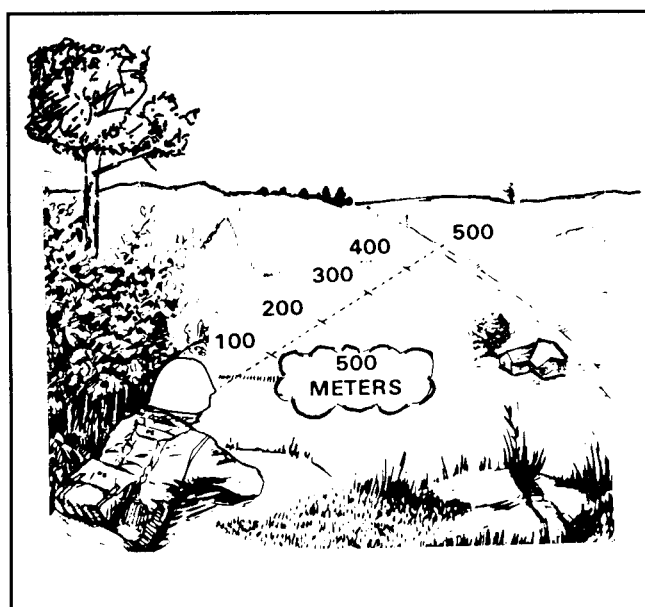
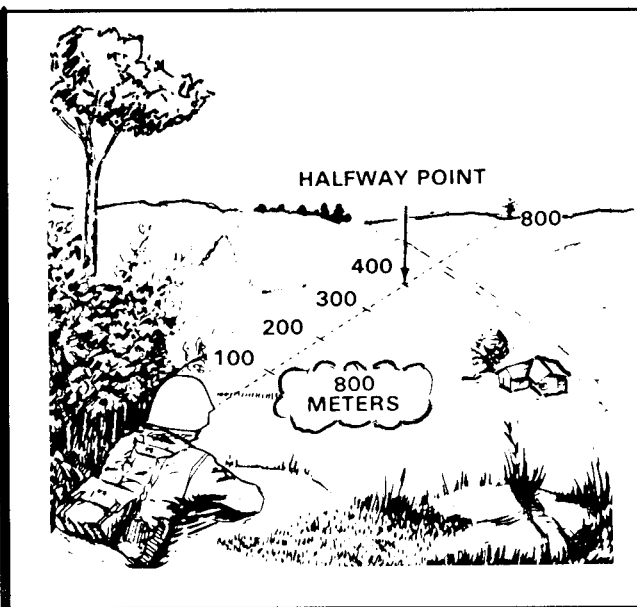

Figure 6-23. 100m to 500m unit-of-measure method.
Figure 6-24. 100m to 800m unit-of-measure method.
(2) *100-meter-unit-of-measure method.* To use this method, the automatic rifleman visualizes a distance of 100 meters on the ground. For ranges up to 500 meters (Figure 6-23), he determines the number of 100-meter increments between the two points he wishes to measure. Beyond 500 meters (Figure 6-24), he selects a point halfway to the target, determines the number of 100-meter increments to the halfway point, and then doubles it to find the range to the target.